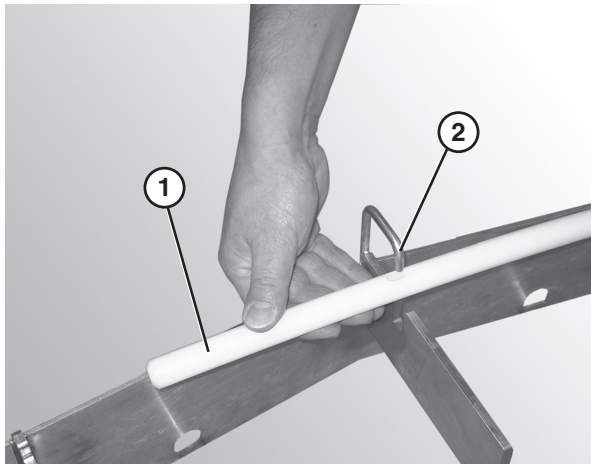

Figure 36
2. Attach the hold down wear strip (**Figure 36, item 1**) to the frame hooks (**Figure 36, item 2**) on the outside of the frame.